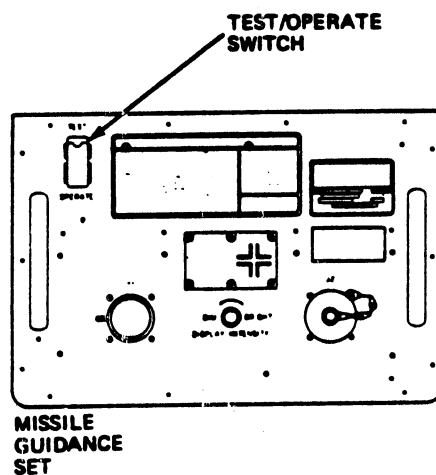

Fig 3-14. TEST/OPERATE switch (MGS).
Step 5. Release the TEST/OPERATE switch on the missile guidance set (fig 3-14) and close the cover over the switch.